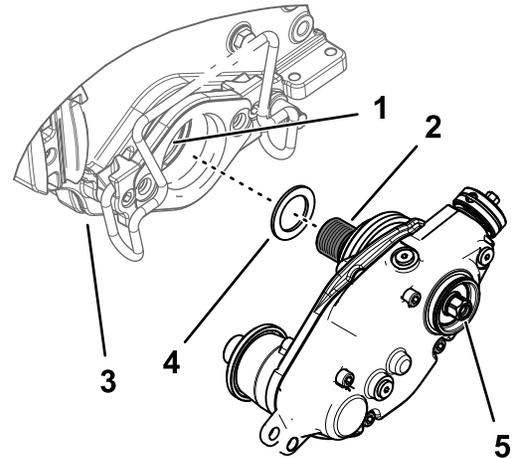

Figure 13
2. For a groomer drive box installed at the left side of the cutting unit, assemble the shim washer over the threads of the black reel adapter (Figure 13).
4. Attach the groomer drive box to the reel shaft (Figure 13).
6. While the reel is restrained, torque the hex-head of the drive-box shaft to 135 to 150 N·m (100 to 110 ft-lb); refer to Figure 13.